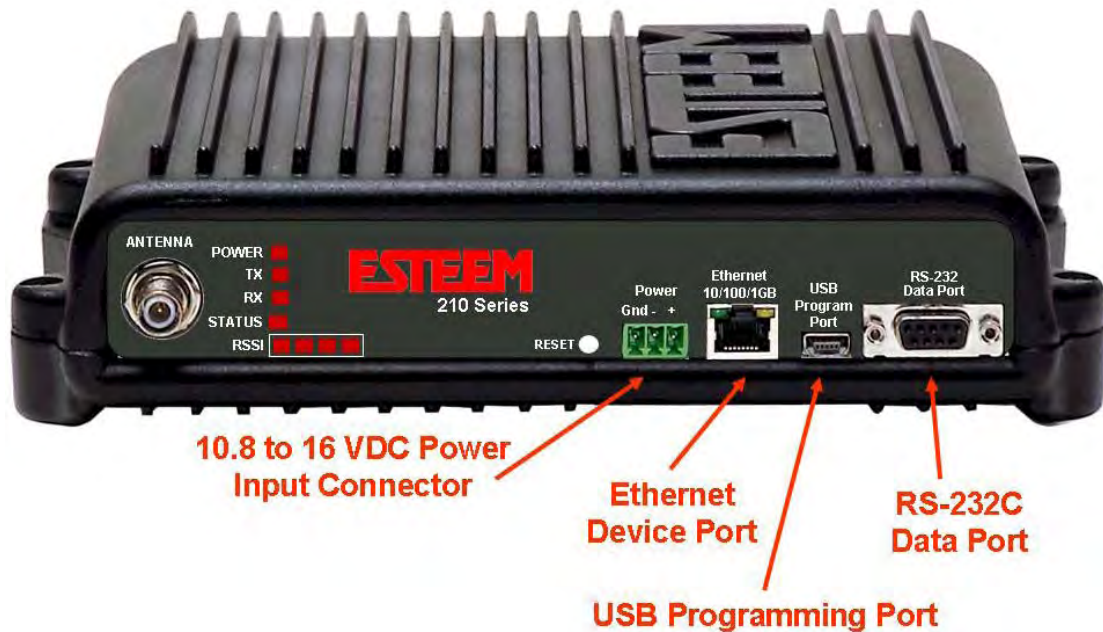

Figure 1: 210 Front Panel Overview
1. Connect the antenna to the TNC connection on the ESTEem Model 210 (Figure 1).